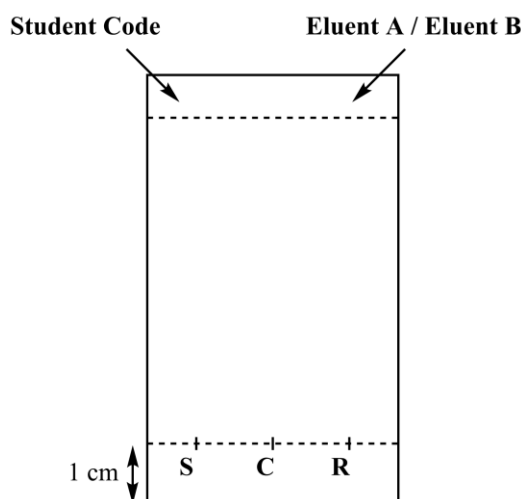

Figure 3. TLC plate preparation
- 3- Prepare your TLC plate. Use a pencil to draw carefully the start line (1 cm above the bottom of the plate) and mark the positions in order to spot the 3 samples. Label them **S** (Starting material), **C** (Crude product) and **R** (Recrystallized product), as described in Figure 3. On the top left of the plate, write your **Student Code**. On the top right of the plate, write the eluent you use (first **Eluent A**, then **Eluent B**). Spot the three samples on the plate, using capillary spotters.